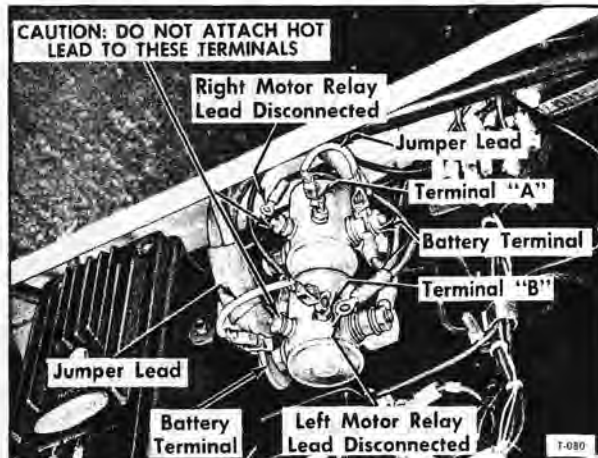

Figure 27—Using Jumper Lead To Operate Blower Motors—Models with Standard Heating and Late Models with Air Conditioning
To check blower operation or alignment of blower wheels the blower motors can be operated from below coach using jumper leads as shown in figures 27 and 28.
NOTE: Refer to figure 27 which shows both right and left motor relay jumper leads installed. If only one motor is to be operated, install jumper lead at respective control relay. The following however, explains procedure for operating both blower motors.
1. Disconnect the blower control relay leads from the small terminals "A," and "B," figure 27. This is to eliminate feed-back of current to coach electrical system.